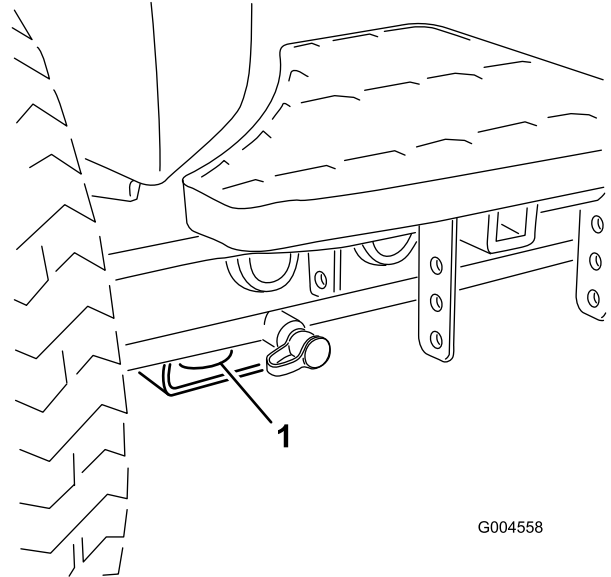

Figure 57
- Front—the hole in the rectangular pad, under the axle tube, inside each front tire (Figure 57).